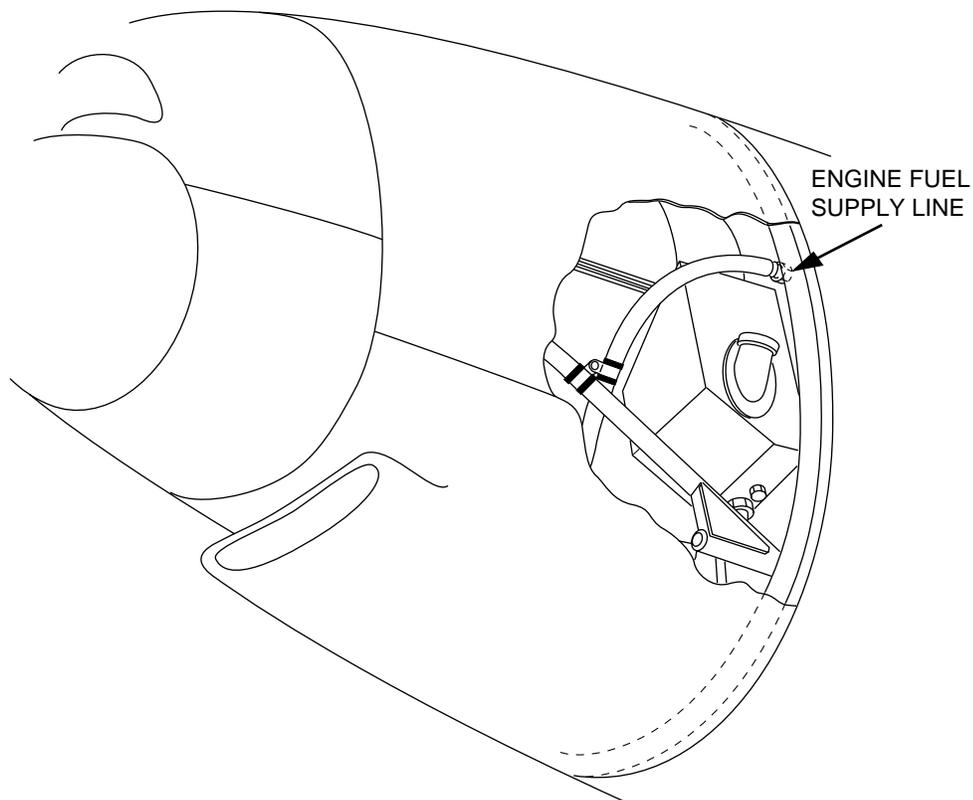

FIGURE 1-5
5. Remove cowling from left hand side of engine nacelle to gain access to engine fuel supply line connection at firewall. (See Figure 1-5)